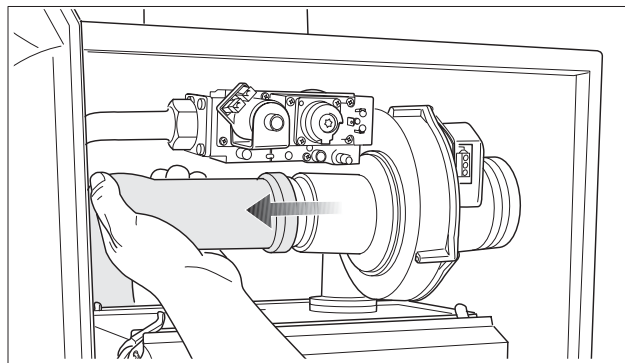

fig. 123 Pulling the air suction tube from the fan
- Pull the air suction tube from the fan (fig. 123).